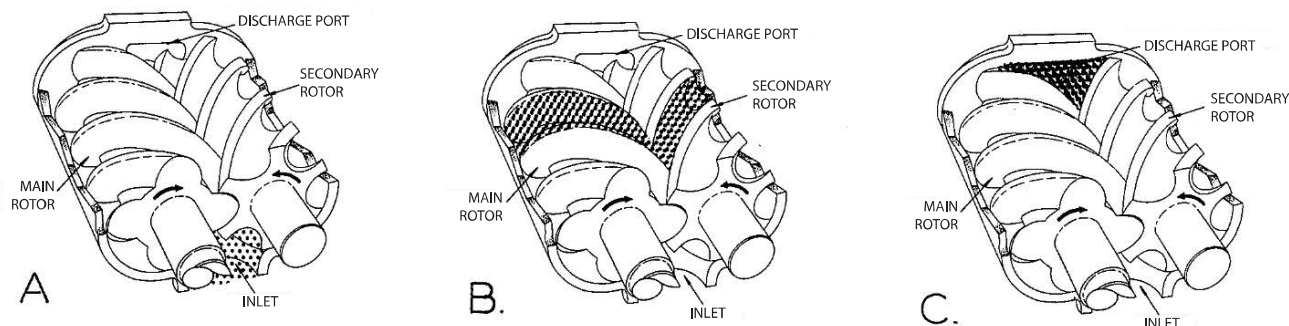

Figure 7: Compressor Cycle
Compression Principle - (Figure 7) Compression is accomplished by the main and secondary rotors synchronously meshing in a one-piece cylinder. The main rotor has five (5) helical lobes 90° apart. The secondary rotor has six (6) matching helical grooves 72° apart to allow meshing with main rotor lobes.
The air inlet port is located on top of the compressor cylinder near the drive shaft end. The discharge port is near the bottom at the opposite end of the compressor cylinder. Figure 7 is an inverted view to show inlet and discharge ports. The compression cycle begins as the rotors unmesh at the inlet port and air is drawn into the cavity between the main rotor lobes and the secondary rotor grooves (A). When the rotors pass the inlet port cutoff, air is trapped in the interlobe cavity and flows axially with the meshing rotors (B). As meshing continues, more of the main rotor lobe enters the secondary rotor groove, normal volume is reduced and pressure increases.